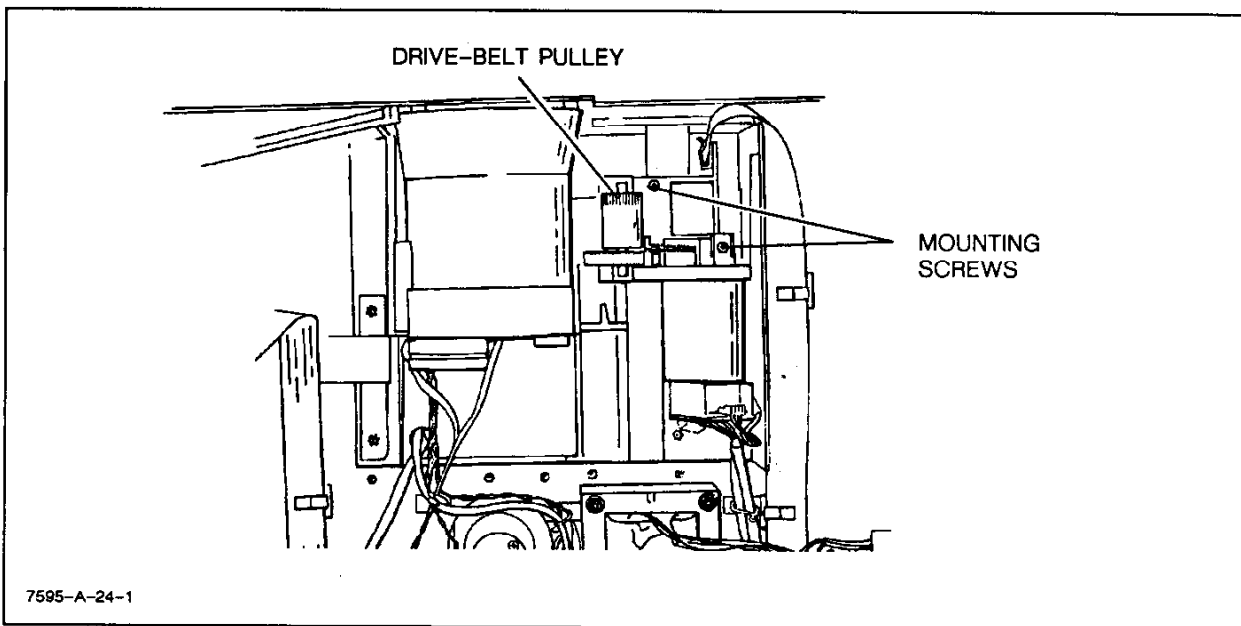

Figure 6-26. Pen Carriage Drive Assembly Removal
- h. Remove the right side drive belt pulley. See Figure 6-26.